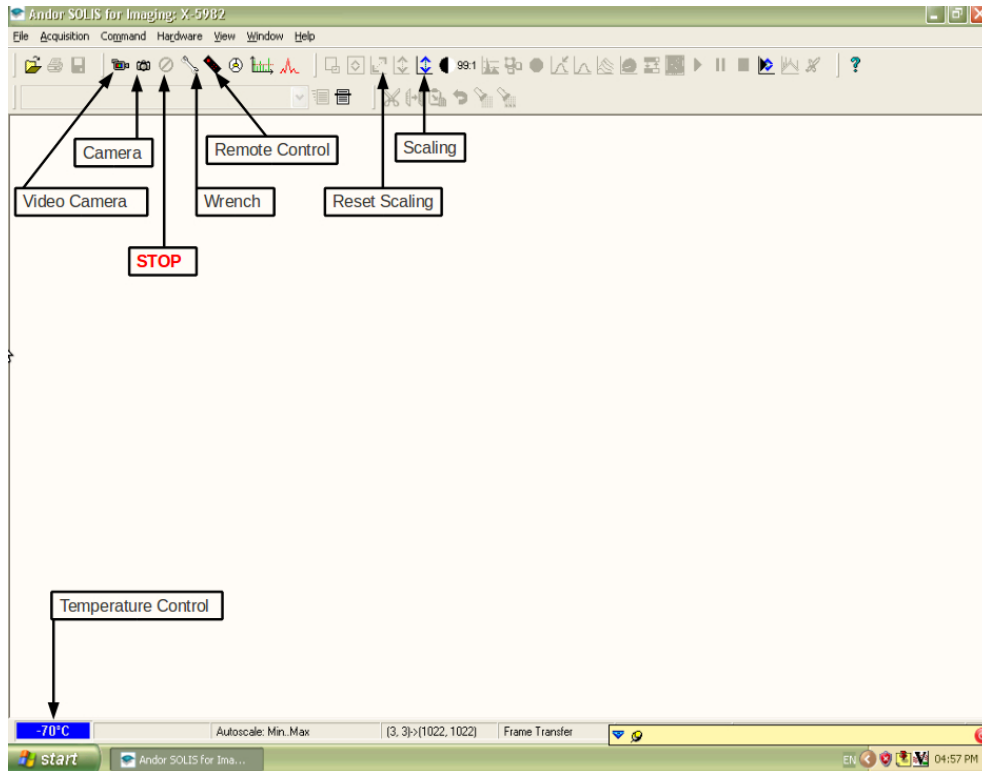
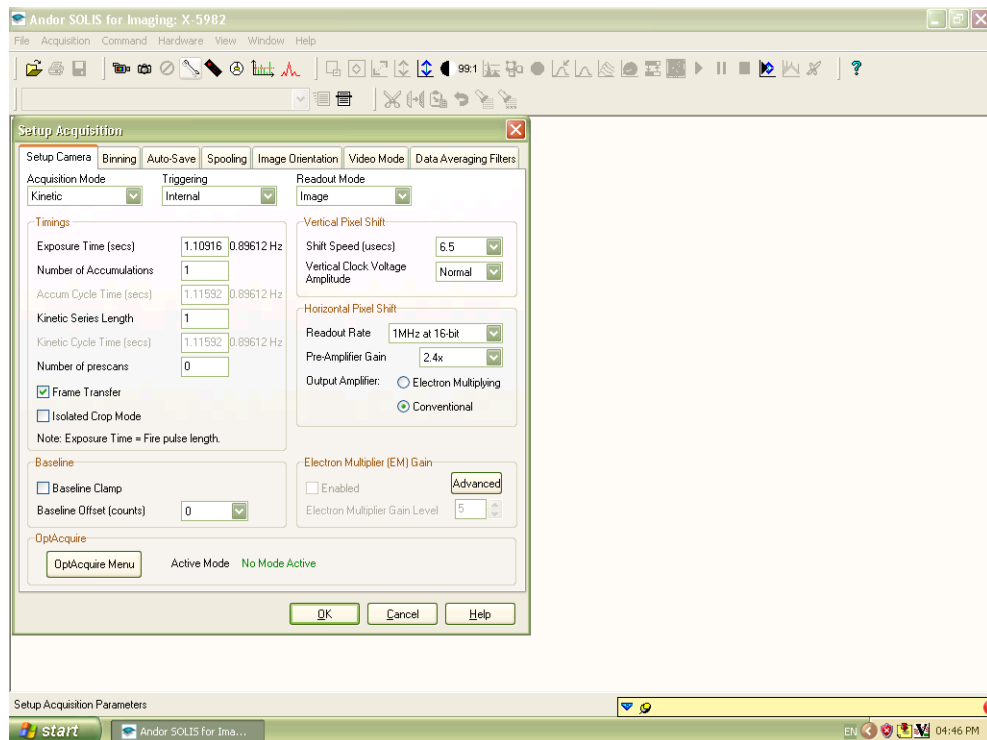
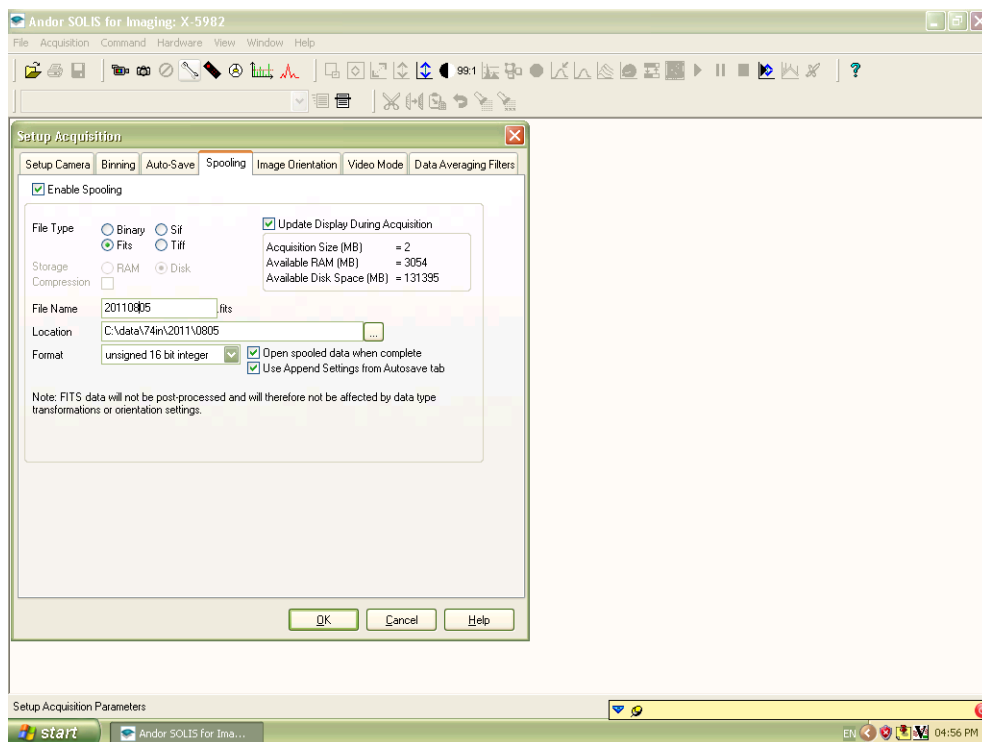

Figure A.2: The SHOC start up interface.
Figure A.3: SHOC's main setup window.
Figure A.4: The spooling tab in the main camera setup.
1. Open the camera control software by double clicking on the “Andor SOLIS” icon on the main Desktop. The user will now be presented with the screen shown in Figure A.2.
2. **Click on the temperature indicator (labeled temperature control in Figure A.2) at the bottom left of the screen and change it to -60°C .** Note that the camera will automatically start cooling to the set temperature when the control software is opened. Once the temperature has stabilized at the set temperature, the temperature indicator box will turn from red to blue. This typically takes less than five minutes although it can be as much as ten minutes. A temperature of -60°C is used as it gives adequate cooling under normal operating conditions to provide negligible dark current and low read noise. If ambient temperatures are high ($> 25^{\circ}\text{C}$), this value should be increased to -50°C which will have a limited effects on data quality and will reduce stress on the cooler.
3. Open the wrench icon on the main menu bar (the first bar with icons, icon number seven; labeled in Figure A.2). The user will be presented by a screen as shown in Figure A.3.
- (a) In the first tab “Setup Camera”, the camera parameters should be set for each exposure. Figure A.3 shows the standard settings: the “Exposure Time” (in seconds) and “Kinetic Series Length” (the number of frames in a single data cube) are typically the only parameters that need to be changed between exposures. Details on other parameters are provided in Section A.3, for advanced users.
- (c) **THE “Output Amplifier” MAY ONLY BE SWITCHED TO “Electron Multiplying” (EM) IF SPECIAL PERMISSION HAS BEEN GRANTED TO DO SO FOR A SPECIFIC TARGET** by either Amanda Gulbis (amanda@salt.ac.za) or Hannah Worters (hannah@sao.ac.za). **SHOC’S EM REGISTER CAN EASILY BE COMPLETELY DESTROYED (OR SEVERE PERMANENT DAMAGE DONE) WITHIN A MATTER OF SECONDS IF THE EM MODES ARE USED WITHOUT PROPER TRAINING.**
- (e) In the fourth tab “Spooling” change the “File Name” to “YYYYMMDD” and the “Location” to “C:\data\T \YYYY\MMDD”, where “T” is once more the telescope used (“74in”, “40in” or “30in”) and YYYYMMDD is the current date. An example is shown in Figure A.4. Please ensure that the settings entered match those
1. Exposures are stopped by clicking on the  icon (located two icons to the right of the video camera, labeled as "STOP" in Figure A.2).
2. **Real-time imaging:** Click on the video camera icon (three icons to the left of the wrench; labeled in Figure A.2). The camera will now take and display images, but not save them. This allows the user to check that the exposure time, count levels, binning, telescope position, etc. are as desired.
- (c) The user will note that the display shown in Figure A.2 will change slightly. In the “Timings” section, the tab labeled as “Exposure Time (secs)” changes to “Delay of Exposure Period (secs)”, and “Kinetic Cycle Time (secs)” changes to “Minimum Triggering Period (secs)”.
The scaling icon, labeled in Figure A.2, is used to activate and deactivate automatic scaling of displayed images. When the icon appears as displayed in the Figure, the display will be automatically rescaled after each image is taken. Although this sounds good, the problem is that the images are always scaled linearly between the brightest and faintest object on the frame, resulting in fainter objects being hard to see. In order to see fainter background stars, the display can be adjusted by either clicking and dragging the scaling bar at the top of the image or using the arrows at either end of the bar to increase/decrease the minimum and maximum counts between which the scaling is done. If the user would like to adjust the scaling once and then not have it change after every image taken is displayed (the scaling will revert to default as each new image is displayed), the scaling icon can be clicked.
After each image is taken, the display will update to show the most recent image. After a cube has been taken, a new window will open showing all of the images in the cube, and allowing the user to scroll through them using a scroll bare on the left of the window. Additionally the user can zoom into any particular section of an image by simply clicking and dragging a box around the area of interest. In order to get out of the zoomed in area, simply click on the “Reset Scaling” indicated in Figure A.2.
The “Vertical Pixel Shift” box in Figure A.3 can be used to change the speed at which charge is shifted vertically through the part of the CCD that is exposed to light. The default setting (of $6.5\mu\text{s}$) is recommended as this allows for the highest shift speed without significant decreasing the charge transfer efficiency. Values of the “Vertical Pixel Shift” at which the charge transfer efficiency will be significantly reduced are indicated in the software by []. Note that by increasing the vertical shift speed, shorter exposure times will be possible in a given mode, however the amount by which the exposure time can be decreased is at maximum six milliseconds.
The “Horizontal Pixel Shift” box in Figure A.3 contains three parameters that can be adjusted, these are “Readout Rate”, “Pre-Amplifier Gain” and “Output Amplifier”. Together these parameters set what has up to now been referred to as the mode of the camera. Starting at the bottom, **THE “Output Amplifier” MAY ONLY BE SWITCHED TO “Electron Multiplying” IF SPECIAL PERMISSION HAS BEEN GRANTED TO**